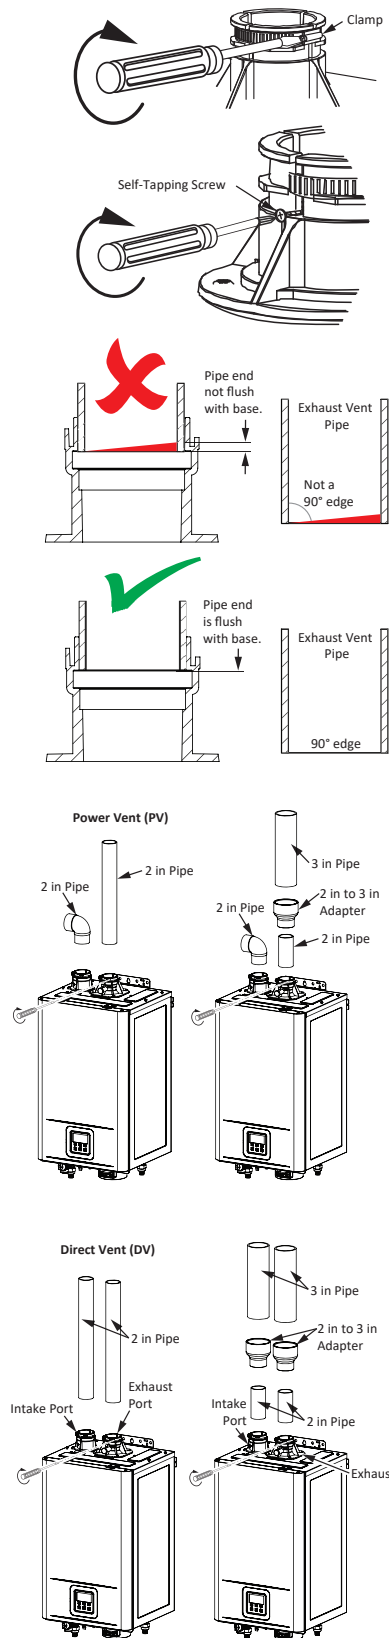

Figure 15 - Vent Pipe Installation
- 1 Insert 2 in diameter straight pipe fully into the exhaust/intake connection ports until fully seated (See Figure 15). The pipes will insert at a minimum of 1.5 inches.
- 2 Use a screwdriver to tighten the clamp. (See Figure 15)
- 3 Use the supplied self-tapping screws to secure the venting to the intake and exhaust ports as shown in the image on the right. (See Figure 15)